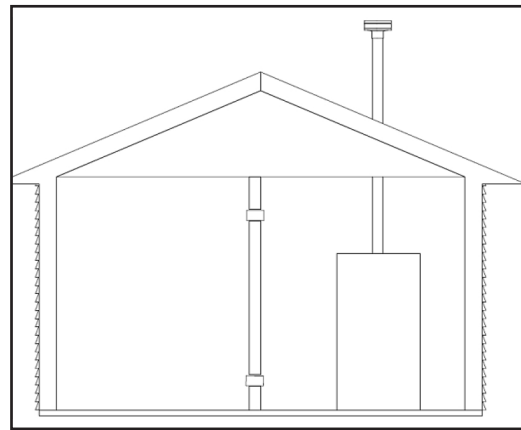
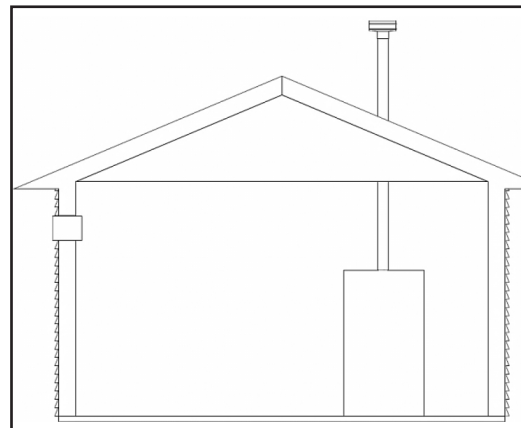

Figure 22 - Combustion Air from Indoors
Figure 23 - Combustion Air from Outdoors - Single Opening
See Figure 22 for reference.
4. If a single combustion air opening is provided to bring combustion air in directly from the outdoors, the opening must be sized based on a minimum free area of one square inch per 3000 BTU/hr. This opening must be located within 12" of the top of the enclosure. See Figure 23.
| Model | Figure 22 | | | Figure 23 |